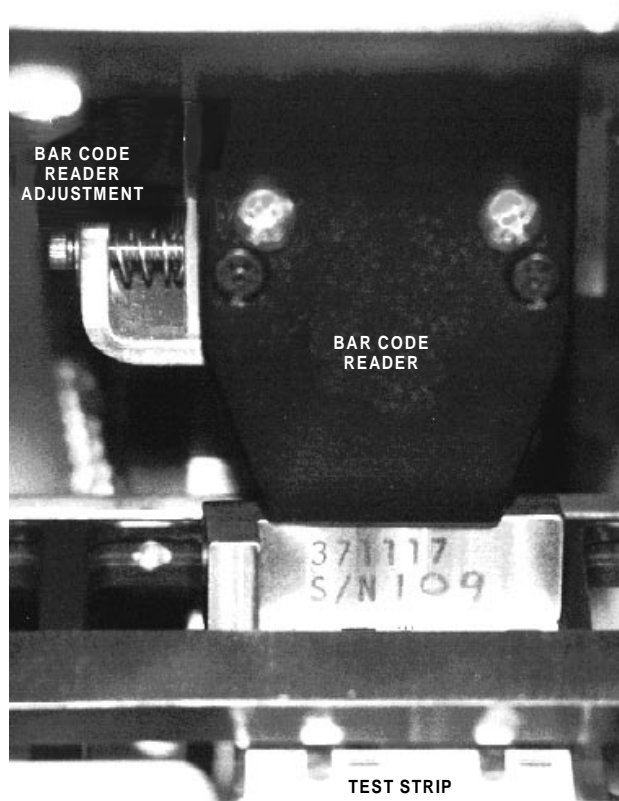

Figure 6-8 Bar Code Reader Alignment
4. Loosen bar code reader mounting screws and insert Pulley / Bar Code Reader Alignment Tool (P/N 371117-1) on edge between reader and the Test Strip (see Figure 6-8). Adjust the Bar Code Reader to touch the tool and retighten the mounting screws. (This will space or focus the bar code reader 0.5 inch above the strip. A different focal length may be necessary as required by a later step.)